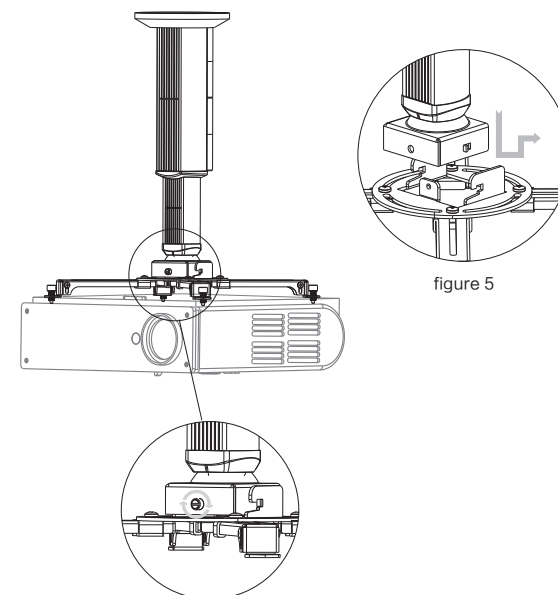

figure 5
- 3 Connect the base(already installed with the projector) by hooking on the adjuster as figure 5. Lastly, tighten the screw.